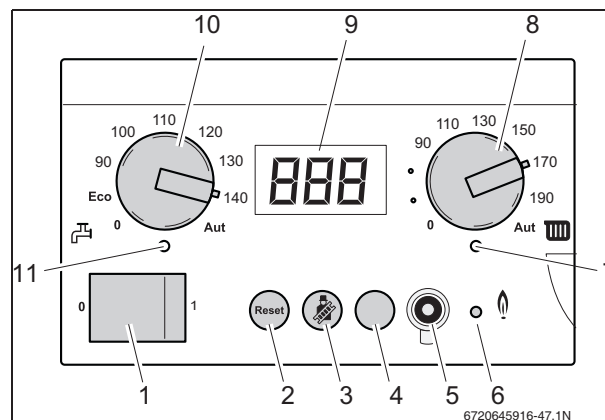

Fig. 62 BC10 basic controller
- Switch ON the appliance by pressing the main switch of the BC10 basic controller (fig. 62, [1]).
- Press and hold the "Chimney sweep" button (fig. 62, [3]) (approx. 2 seconds), until the dot in the right-hand bottom corner of the display (fig. 62, [9]) appears. table 12, "Flue gas test", page 36.
- After the LED "Burner operation" (fig. 62, [6]) has lit up wait for 1 minute until the boiler is burning at full load.
- Press the "Service"  button (fig. 62, [4]) repeatedly until the temperature reading is shown in the display.
- Press the "Chimney sweep"  button (fig. 62, [3]) to clear the reading. → table 12, "Flue gas test", page 36.
- Press and hold the "Chimney sweep"  button (fig. 62, [3]) (approx. 2 seconds), until the dot in the right-hand bottom corner of the display (fig. 62, [9]) appears. → table 12, "Flue gas test", page 36.
- Switch OFF the appliance by pressing the main switch of the BC10 basic controller (fig. 62, [1]).
- Press and hold the  button (fig. 62, [3]) (approx. 2 seconds), until the dot in the right-hand bottom corner of the display (fig. 62, [9]) appears. → table 12, "Flue gas test", page 36
- After the "LED Burner operation" (fig. 62, [6]) has lit wait for 1 minute until the boiler is burning at full load.
- Switch OFF the appliance by pressing the main switch of the BC10 basic controller (fig. 62, [1])